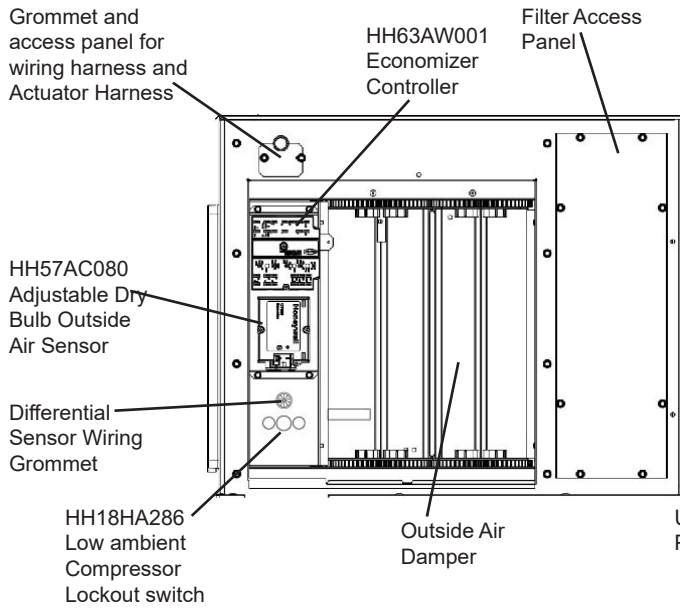

Fig. 2 - Component Locations
Economizer - See Fig. 2 for Economizer component locations. To install the horizontal Economizer perform the following procedure:
15. Remove the filter access (Fig. 2) (IMPORTANT: On the CPECOMZR012A00 filter rack, the 18 x 20 (457.2mm x 508mm) filter must be installed through the filter access door first. Then install the 16 x 20 (406.4mm x 508mm) filter and install disposable filters in filter rack. See Table 2 for filter sizes.